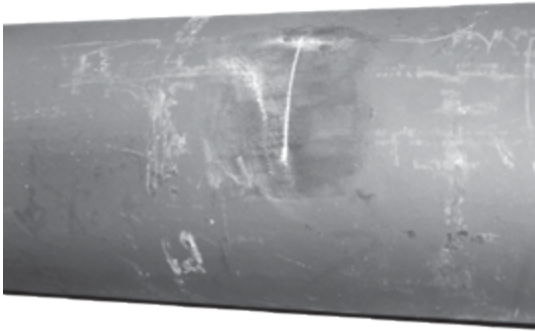

Figure 1: Previous bracket weld ground flush to axle tube surface
- A. **Grind** away any remaining weld or S-cam bracket material from the axle tube (Figure 1).